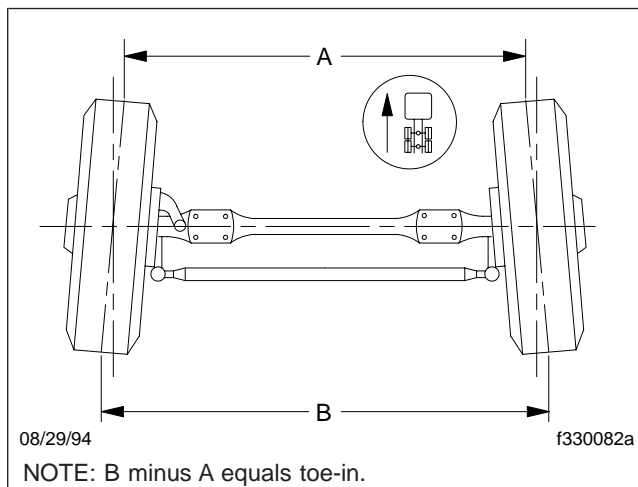

Fig. 4, Wheel Toe-In (overhead view)
6. Place a trammel bar at the rear of the front tires; locate the trammel pointers at spindle height, and adjust the pointers to line up with the scribe lines on the center ribs of the front tires. See Fig. 4. Lock the pointers in place. Check that the scale is set to zero.